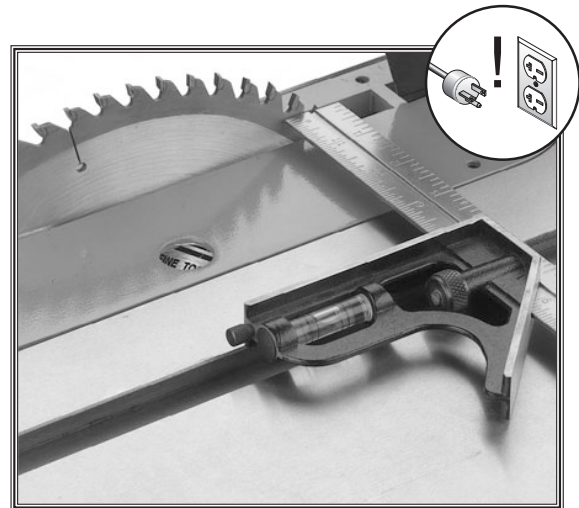

Figure 98. Example of adjusting blade to miter slot.
2. Use an adjustable square to measure the distance from the miter slot to a carbide tip on the blade, as shown in **Figure 98**. Make sure that the face of the adjustable square is even along the miter slot.